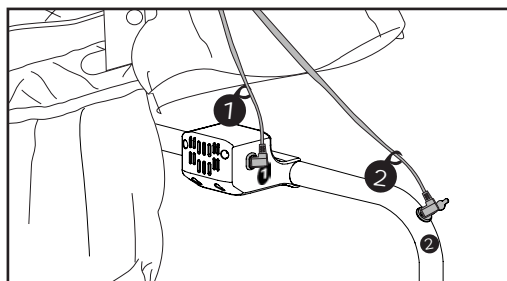

Fig. 2
- Make sure both wires are fully connected (Fig. 2).